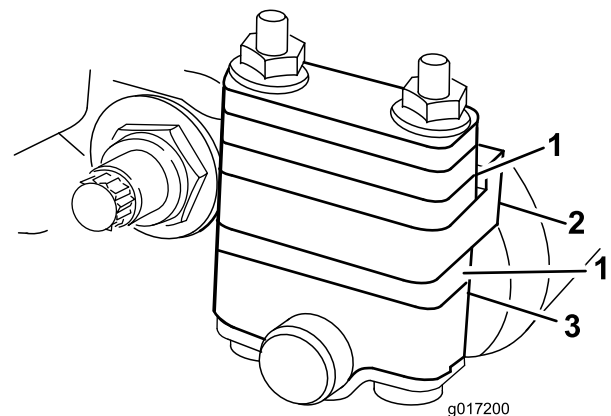

Figure 2
11. Remove the screws and nuts securing the rear roller brackets and spacers to the side plate mounting flanges (Figure 2). Discard the screws and nuts.
**Note:** Older Flex 21 cutting units do not have a side plate mounting flange (Figure 2). Skip steps 11-14 if the kit is being installed on an older model unit and discard the spacers.